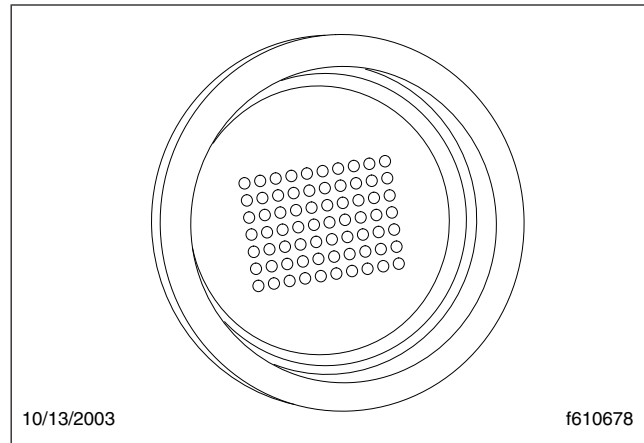

Fig. 15.4, Gear Indicator: Power Up Dot Display
1. With the parking brake set, turn the ignition switch on and allow the shift selection module to power up. The gear indicator will show the dot display, arranged in a square pattern. All dots in the pattern should light up, without gaps or spaces. See Fig. 15.4.